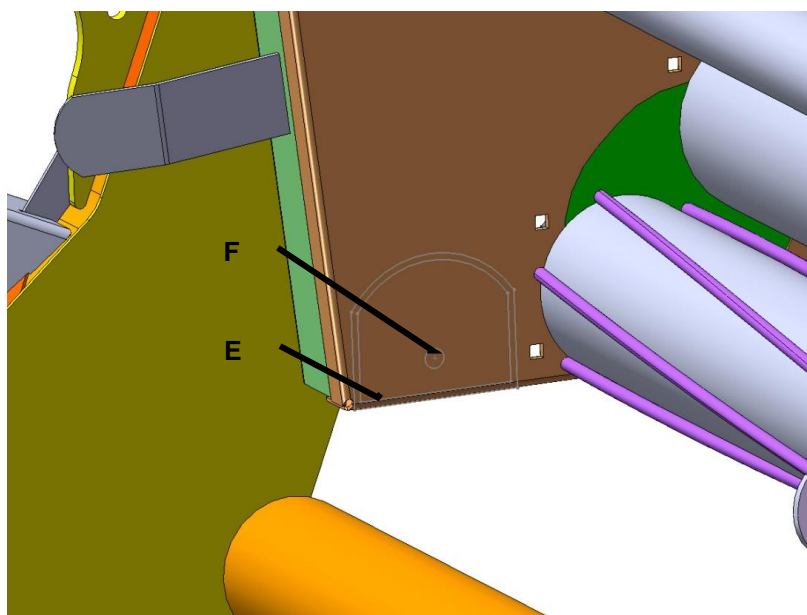

Figure 23
4. Mark a line 1 1/2" (38mm) up and 3 1/2" (89mm) over from point (E). Drill a 3/4" (19mm) hole at the point (F). Repeat for the opposite side. (Figure 23)